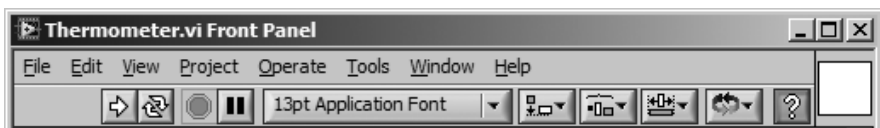

Figure 5.28
3. Create the connector by popping up in the icon pane and selecting **Show Connector**. Because you have only one indicator on your front panel, your connector needs only one terminal (we've mentioned that the default 12-terminal connector has some advantages, but we'll ignore that for now). Pop up on the connector and choose the single terminal (the first pattern, in the upper-left corner) from the **Patterns** submenu. Your connector should appear as a white box, as shown in Figure 5.28.